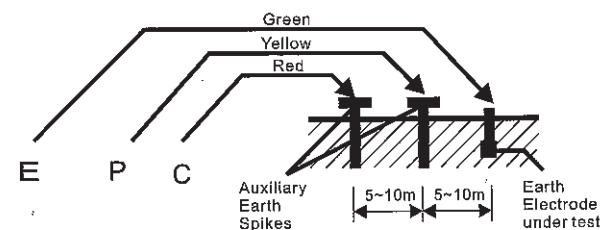

Fig.1
- (1) Connect green, yellow and red test leads to instrument terminals E, P and C with auxiliary earth spikes P1, C1 stuck into earth "IN A STRAIGHT LINE". (Fig. 1)
- (2) Rotary the function switch to suitable range then press the pushbutton to test and take the reading.
- (6) Since measuring current is as low as 2 mA, the earth leakage breaker (ELCB) does not trip even if the earth side of the commercial power supply with an ELCB is used.
* Follow the proper connection such as Fig. 1, the LED(red) indicator will lit. This proves a correct current circulation is under its operation.